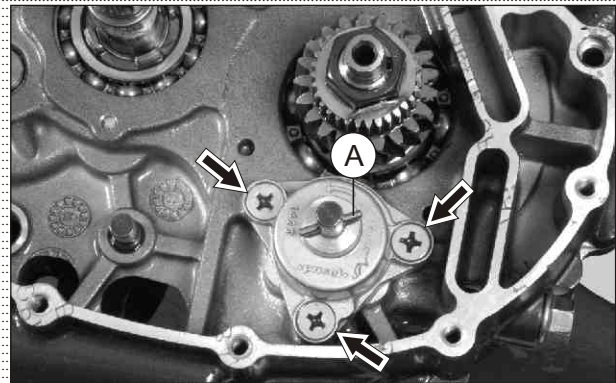

Fig. 3.63
- Remove pin oil pump driven gear (A). (Fig. 3.63)
- Remove CRR CSK head screw (M6x20 - 3 nos) from the pump assembly oil and pull out pump assembly. (Fig.3.63)